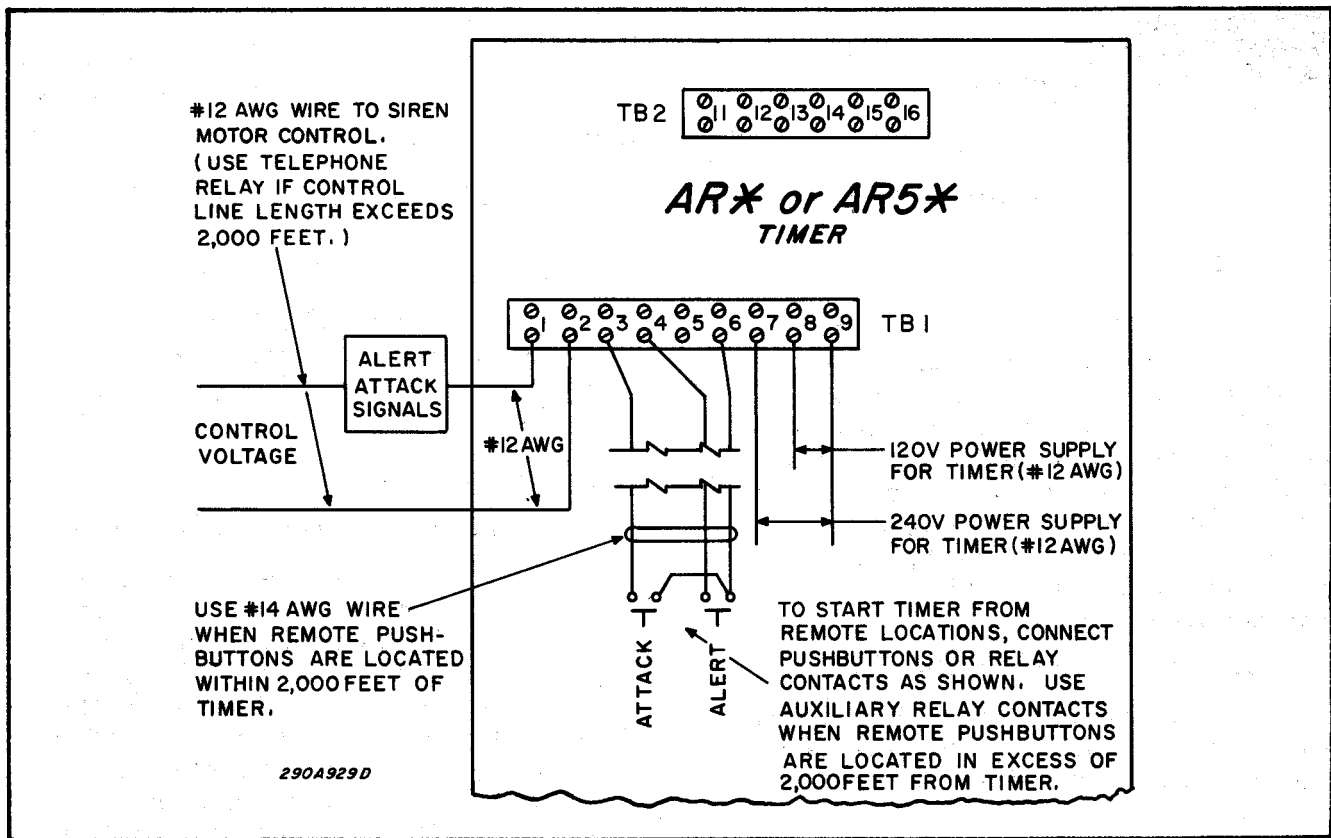
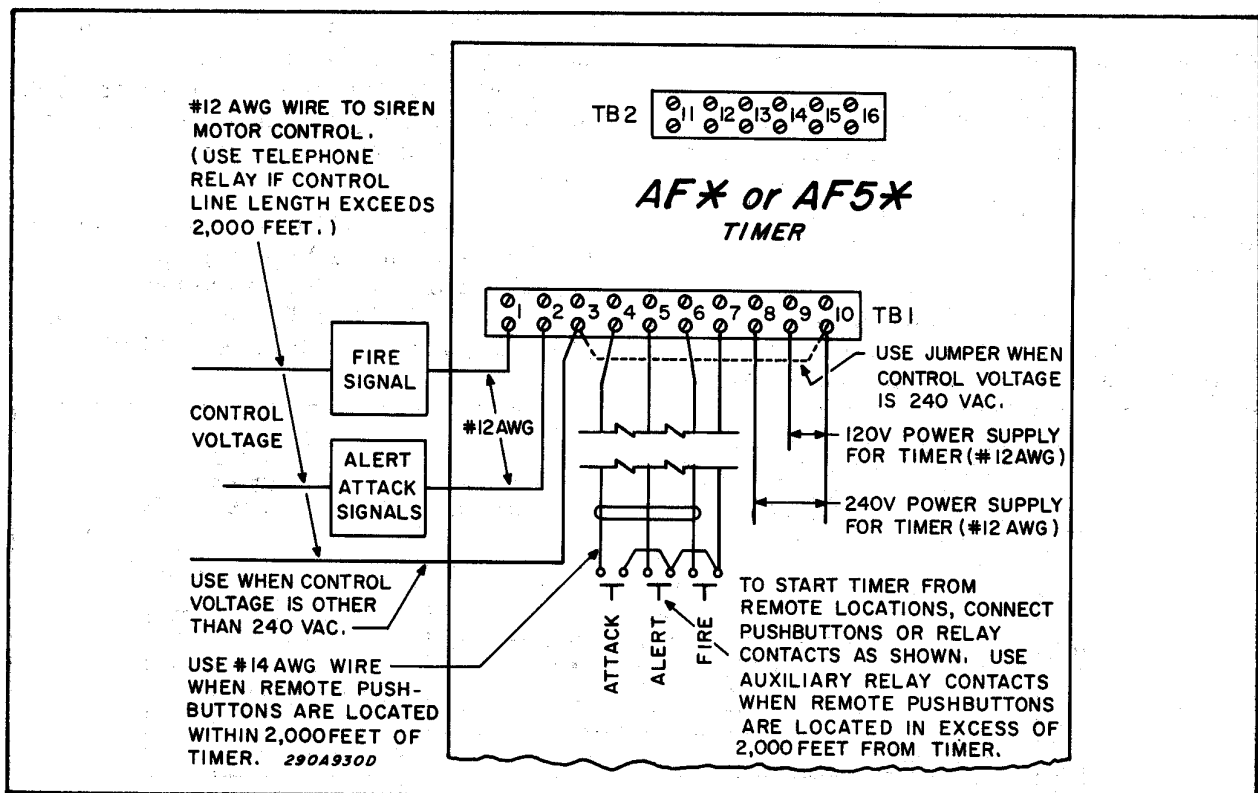

Figure 2. Models AR or AR5 Timer Electrical Connections.
Figure 3. Models AF or AF5 Timer Electrical Connections.
The Model AR timer (see figure 2 and 5) causes two-signal sirens to produce a steady three-minute "Alert" signal and a three-minute, undulating, up and down scale "Attack" signal. The Model AF timer (see figures 3 and 6) causes three-signal sirens to produce a "Fire" signal as well as the "Attack" and "Alert" signals. The "Fire" signal is a two-minute, undulating, rapidly alternating high and low pitched signal, up scale, and a continuous, dual-tone signal down scale.
- B. AR And AF Timers (also AR5 and AF5). (See Figures 2, 3, 5 and 6).